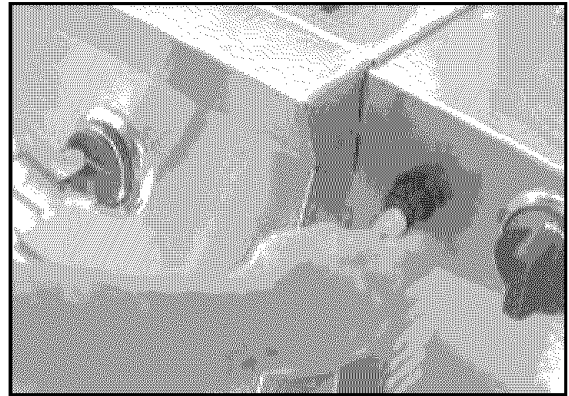

Fig. 15
**ATTENTION:** When turning the L.P. tank on, make sure to open the valve very **SLOWLY** two (2) complete turns to insure proper gas flow.
4. Push and turn one of the control knobs counter clockwise to the "HIGH" position and immediately press the electronic igniter button. You will hear a snapping sound. It may be necessary to hold the electronic starter button for about 4 seconds. (See Fig. 15)